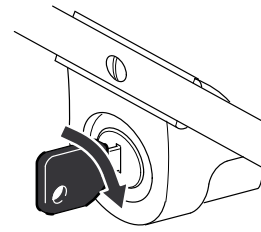

Figure 12
- **Key-lectric Starting (Electric start models only)**—Insert the key into the switch. Turn the key to the right and release it when the engine starts (Fig. 12).